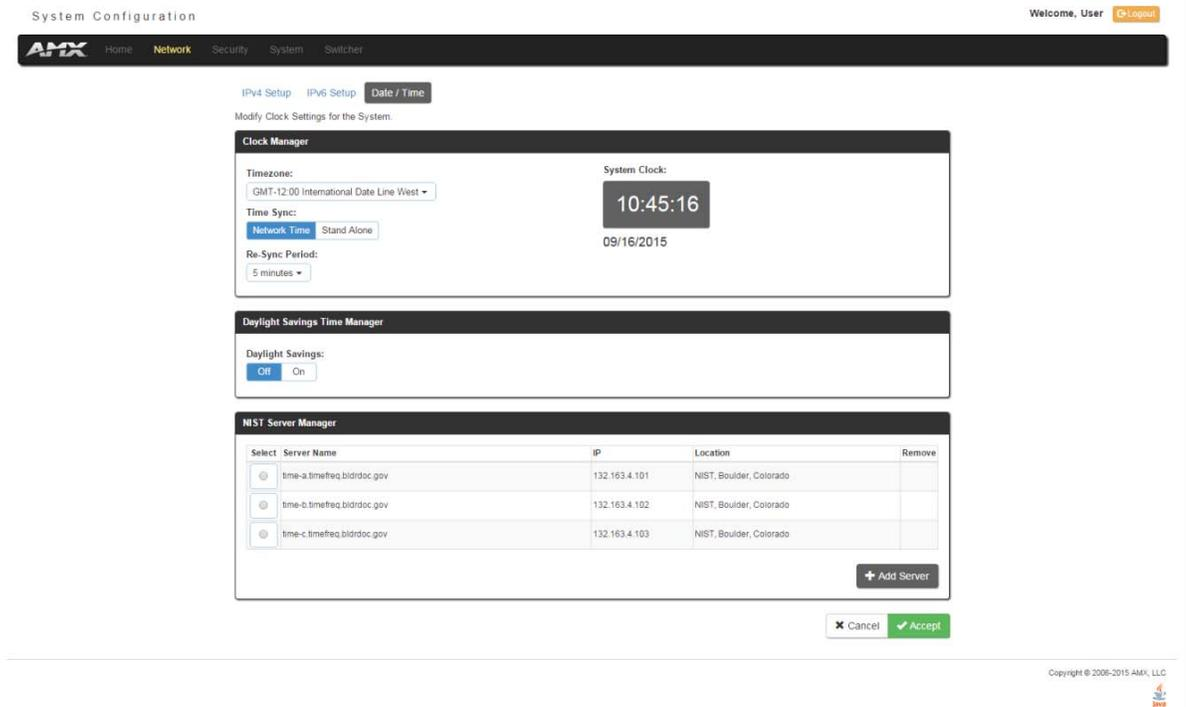

FIG. 34 Network - Date/Time page
Click the **Date/Time** link (on the *Network* page) to access the *Date/Time* page (FIG. 34). The options on this page allow you to enable/disable using a network time source and provide access to Daylight Saving configuration and which NIST servers to use as a reference.
- In the *Manage System* tab (FIG. 34), select a **Time Sync** option.